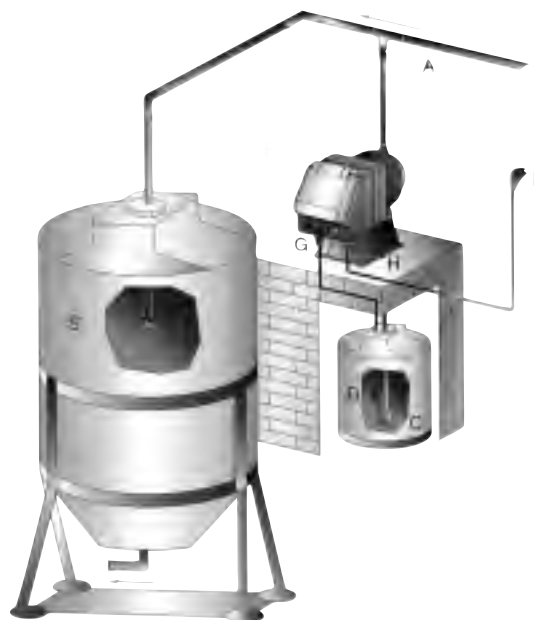

Fig. 12
- Locate the pump in position as shown in fig. 5 taking into account that it can be located over or under the liquid level within a maximum difference of 2 meters. The injection point must always be located higher than the liquid being injected. Do not install the pump directly on the tank as some additives produce vapour which may damage the equipment. For correct installation see fig.12. If the plant being treated operates at atmospheric pressure (free discharge additive) and the additive tank must be placed higher than the injection point (Fig. 6), check periodically that the injection valve is operating correctly, as excessive wear could cause additive injection by liquid loss (even when the plant is not operating). If the problem persists, insert a correctly calibrated counter pressure valve C between the dosing pump and the injection point (Fig. 6). For liquids that give off aggressive exhalations, do not install the pump over the tank unless the tank is hermetically sealed.
(fig.12)